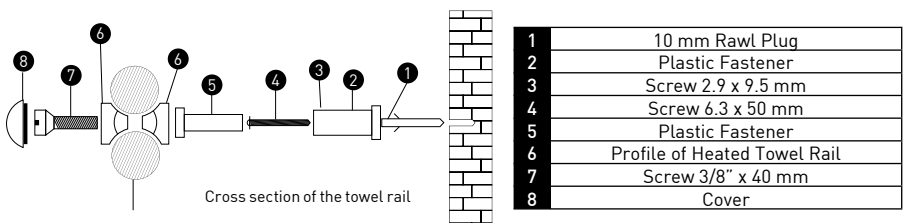

Figure 1.
6. Screw the two brackets for supporting the heated towel rail and the plastic fastener to the horizontal tube of the heated towel rail like in Figure 1 with the 3/8" x 40 mm screw.